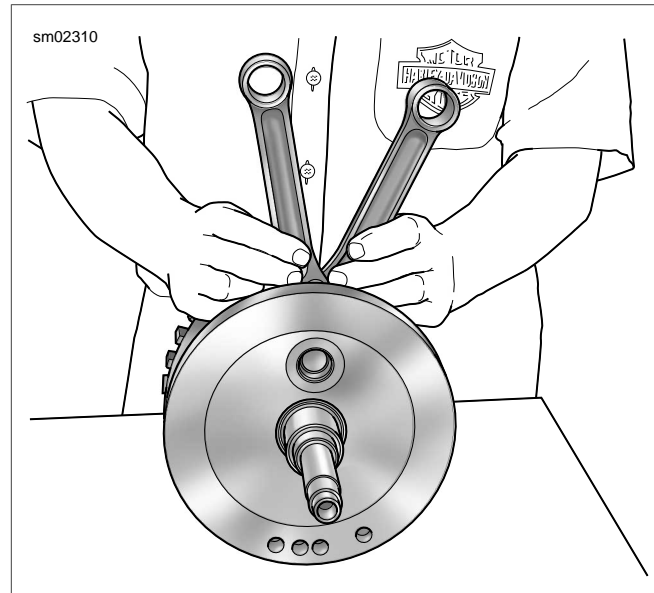

Figure 3-139. Connecting Rod Bearing Clearance
2. Check connecting rod bearing clearance. Orient the assembly as shown in Figure 3-139.